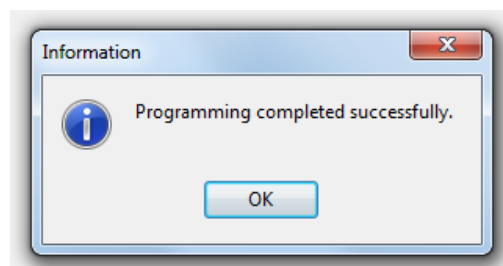

Fig. 34 Finish upload.
- Press: **OK** to finish upload (Fig. 34).